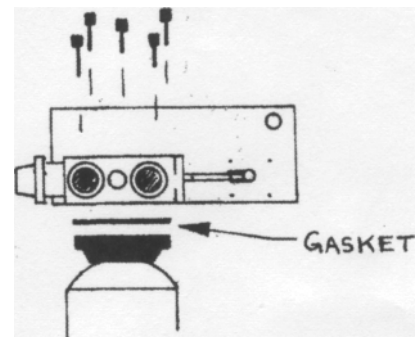

**FIGURE 4**
5. Position the tank adapter in the opening of the tank with the distributor pipe in the port provided. Thread the tank adapter into the tank and tighten until the tank adapter bottoms out on the tank. See Figure 4.